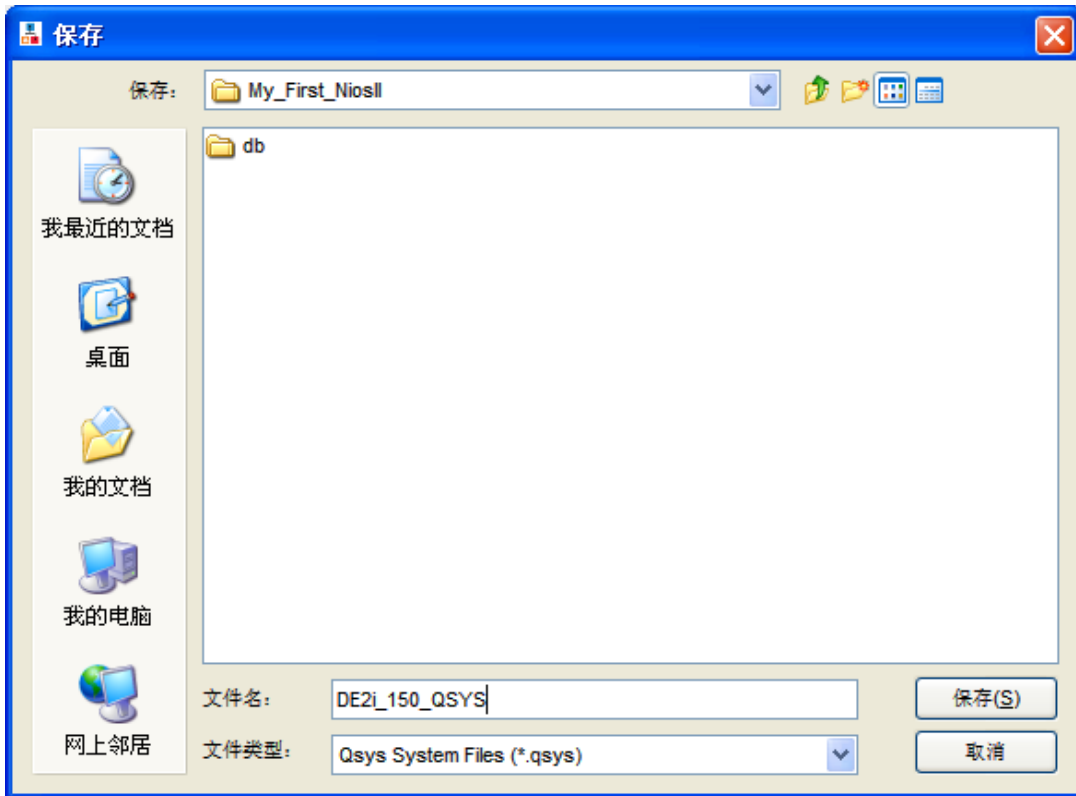

Figure 1-12 Rename System
7. Rename **System Name** as shown in Figure 1-12. Click **Save** and you will see a window as shown in Figure 1-13.